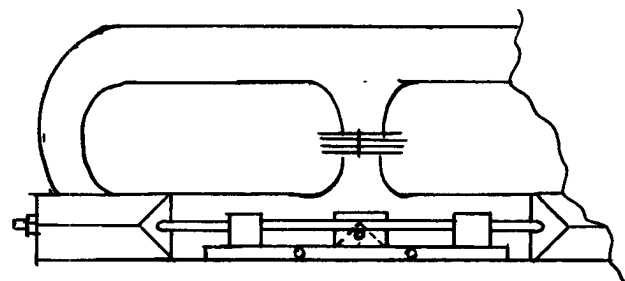

Figure 4
3. Position the plates between the maggie case bolt and the potting compound as shown in Figure 4. Install a 1/4"-20 bolt